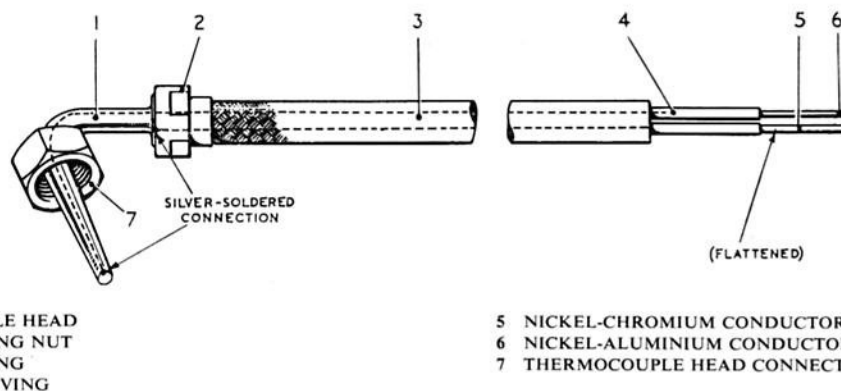

Fig. 1 View of thermocouple hot junction unit, showing internal wiring
5. Referring to fig. 1, the thermocouple unit consists of two conductors, one (5) of nickel-chromium and the other (6) of nickel-aluminium, the junction between the two being located at the tapered extremity of the thermocouple head (1), which is also of nickel-chromium and forms the positive element of the hot junction.
6. The nickel-chromium conductor (5) is silver-soldered to a threaded collar as shown in fig. 1, the collar being integral with the head, whilst the nickel-aluminium conductor (6) is passed through the bore of the thermocouple head and silver-soldered at the tip, which is chamfered off at approximately 45 deg. The nickel-aluminium conductor is insulated from the internal surface of the head by ceramic beading.
7. The leads to the hot junction are insulated by fireclay-impregnated asbestos sleeving (4) and are protected by an oil-resisting armoured flexible conduit (3). This conduit carries a nut (2), which is first screwed on to the threaded collar and then silver-soldered to effect a permanent joint.